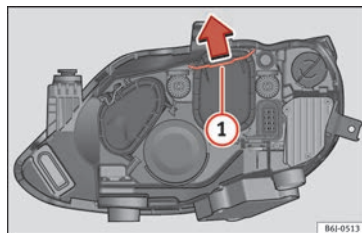

Fig. 99 Double headlight.
- Move the loop **» Fig. 99 1** in the direction of the arrow and remove the cover.